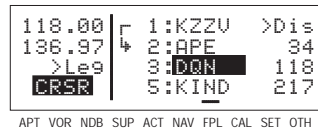

Figure 4-136
2. Turn on the cursor (CRSR) and use the left outer knob to position the cursor over the desired waypoint (figure 4-136).